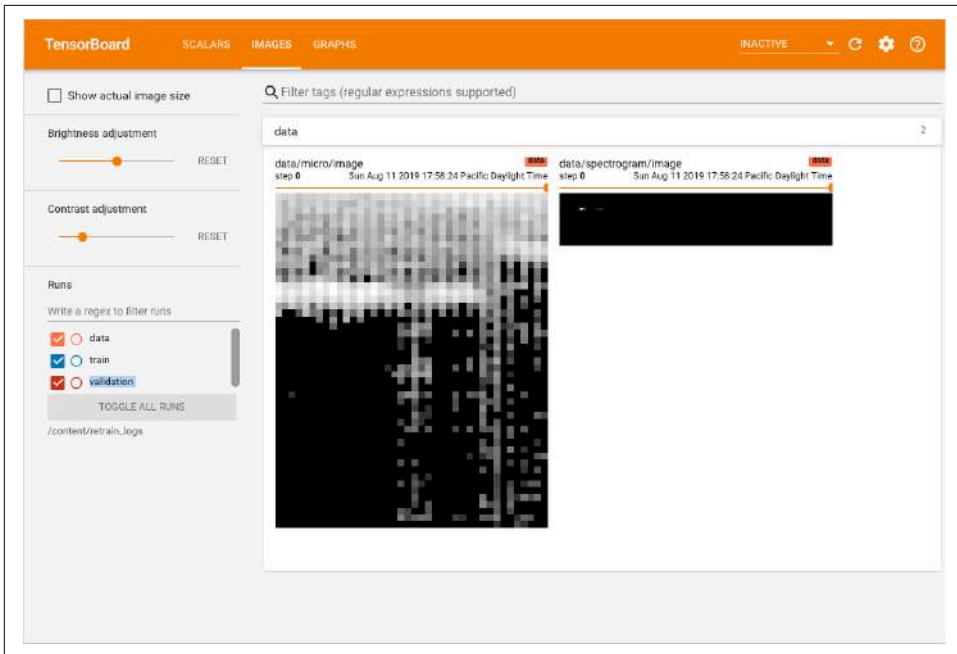

Figure 8-17. The IMAGES tab of TensorBoard
**Figure 8-17** illustrates what is actually being fed into the neural network. This is a 2D array with a single channel, so we can visualize it as a monochrome image. We're working with 16 KHz audio sample data, so how do we get to this representation from that source? The process is an example of what's known as “feature generation” in machine learning, and the goal is to turn an input format that's more difficult to work with (in this case 16,000 numerical values representing a second of audio) into something that's easier for a machine learning model to make sense of. You might not have encountered this if you've previously studied machine vision use cases for deep learning, because it happens that images are usually comparatively easy for a network to take as inputs without much preprocessing; but in a lot of other domains, like audio and natural language processing, it's still common to transform the input before feeding it into a model.